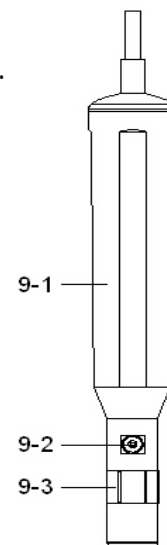

Fig. 2
- 1) Unscrew the " Probe head " (9-3, Fig 2).
- 4) Screw the " Probe head " (9-3, Fig 2) into the probe body.